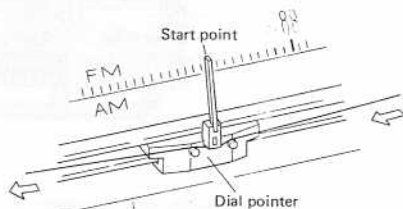

Fig. 6 Attach the pointer
10. Turn the tuning shaft in a counter-clockwise direction (as viewed from the front panel) as far as it will go, and attach the dial pointer to the dial cord so that the pointer reads start point (87MHz) (see Fig. 6).